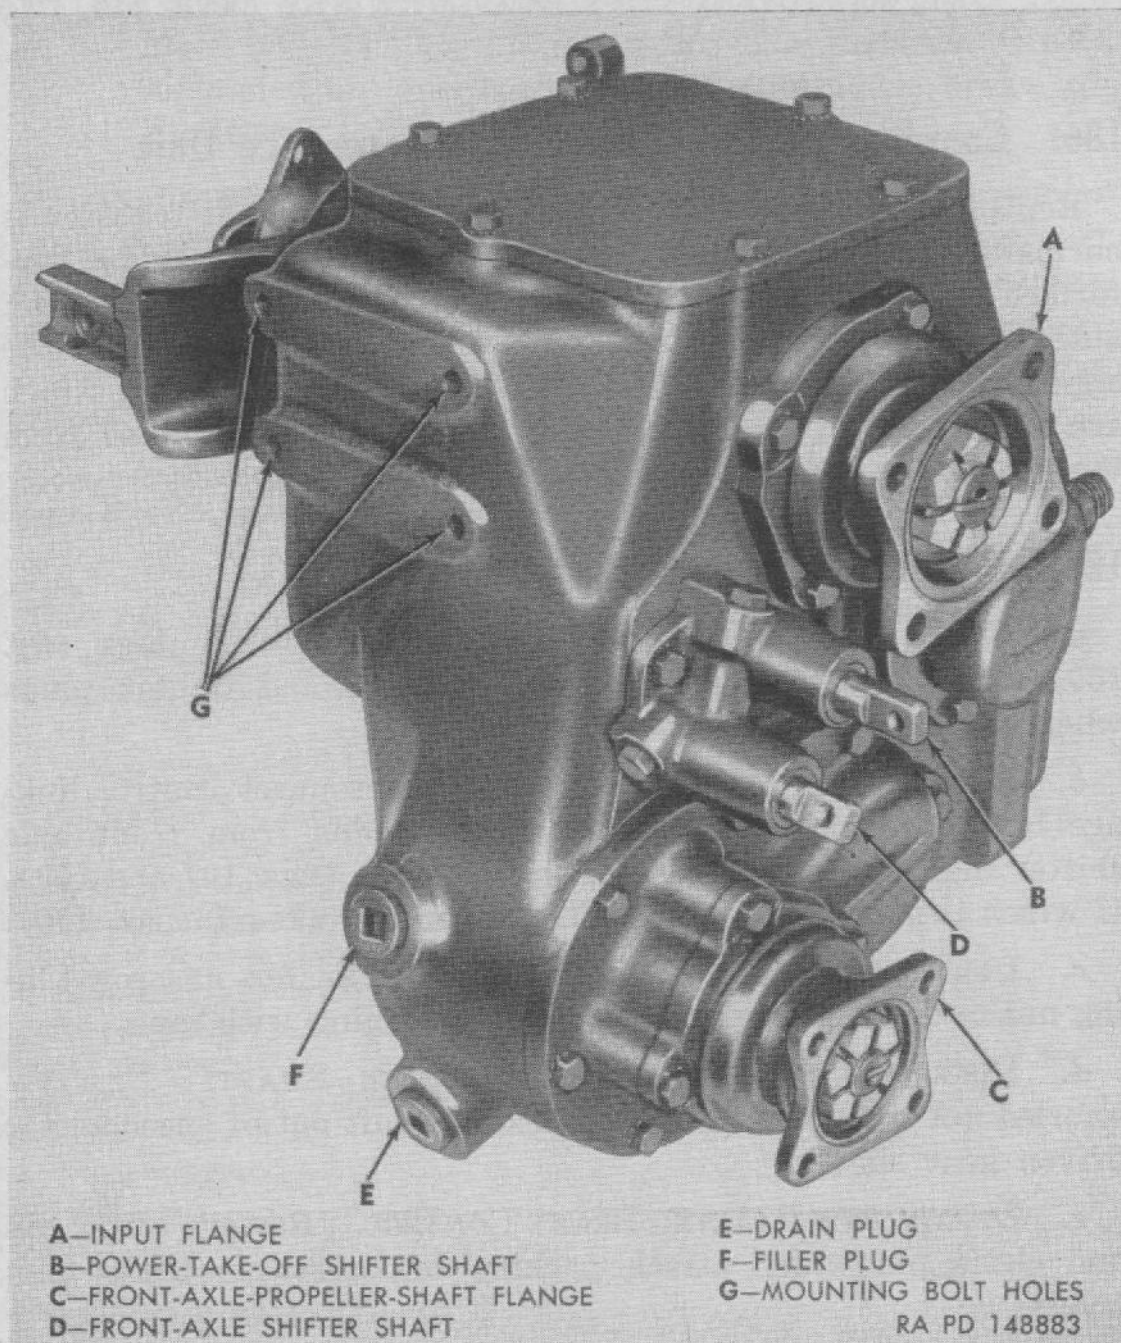

Figure 109. Transfer removed.
a. DRAIN LUBRICANT. Remove drain and filler plugs (fig. 109), and allow lubricant to drain. Install and tighten plugs when drainage is complete.